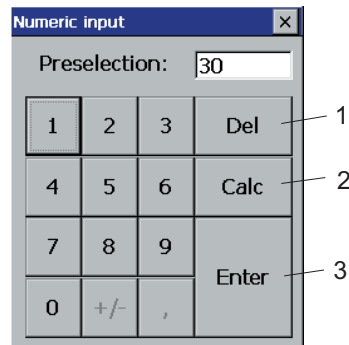

Fig. 33 Input keyboard
You can correct an incorrect entry by pressing the *Del* key (Fig. 33/1). Calculator functions for calculating the fold length can be activated by touching the *Calc* key (Fig. 33/2).
5. Touch the *Enter* key (Fig. 33/1) when the entry is completed.